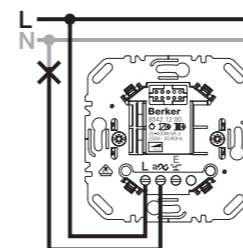

Figure 3: Touch dimmer 1gang
**■** Circuit touch dimmer and optional extension units according to the connection diagram (Figure 3 to 6).